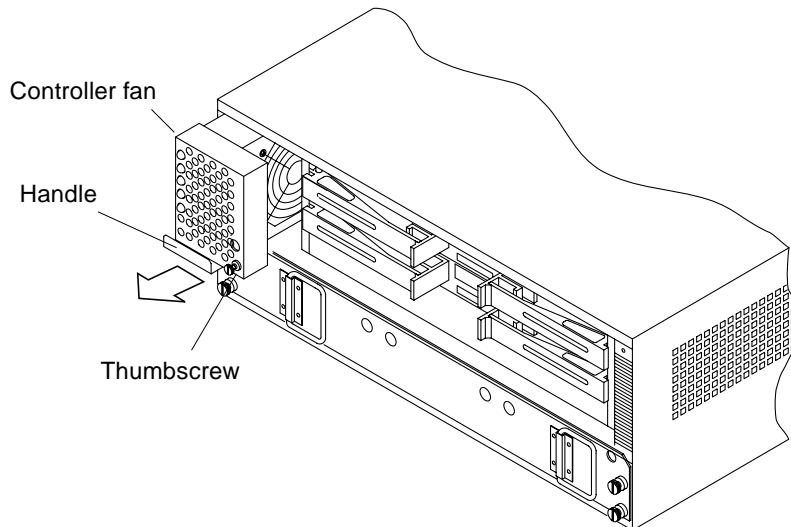

FIGURE 8-1 Removing the Controller Fan Canister
2. Loosen the thumbscrew (counter-clockwise) on the fan canister (FIGURE 8-1).
4. Install the new controller fan canister, sliding the canister firmly into the slot (reverse of FIGURE 8-1).